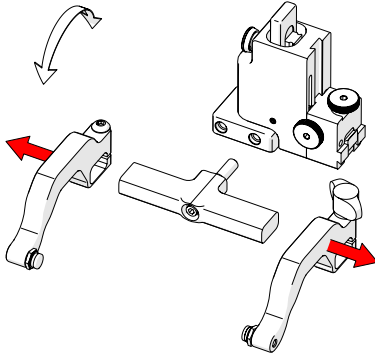

Fig. 164 - Remove probe holder arms
3. Loosen the arm clamp screw and probe holder arm adjustment knob allowing removal of the probe holder arms (Fig. 164).